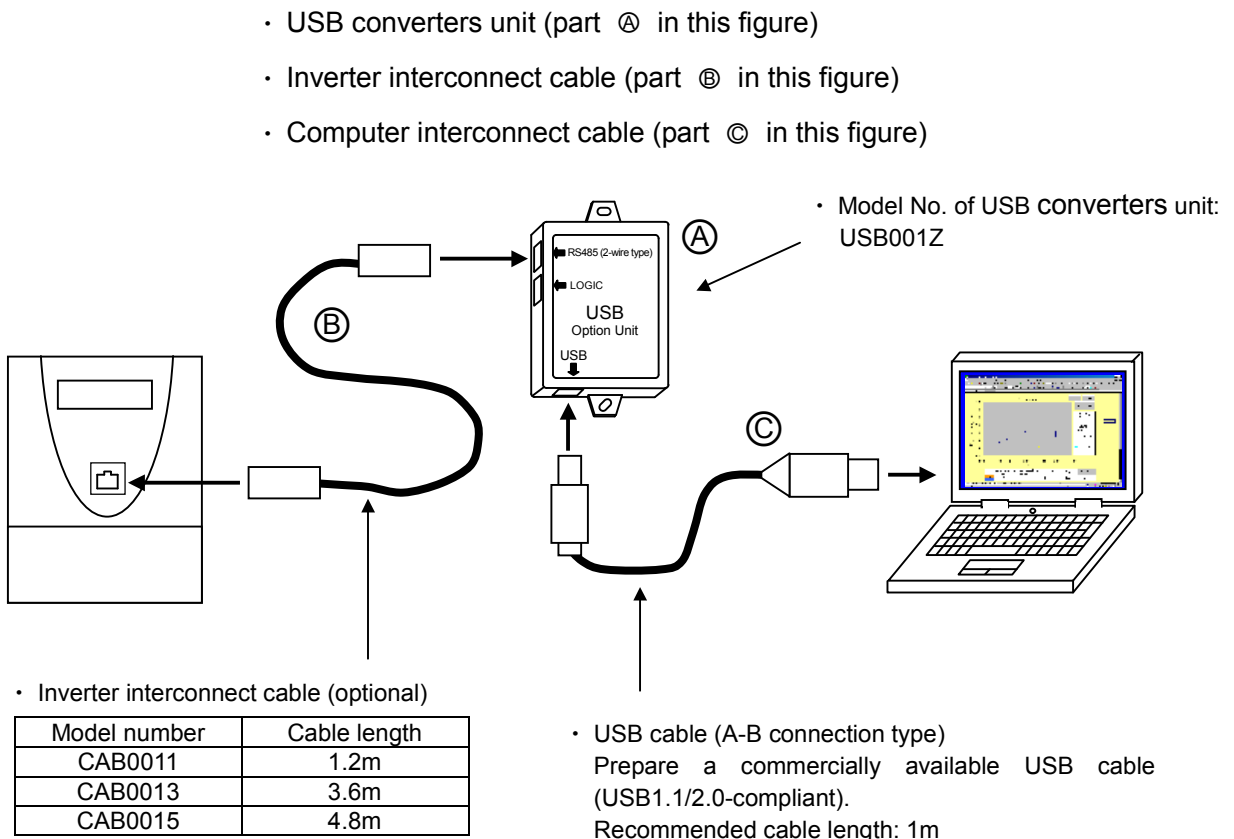

Fig.1 An example of connection of USB converters unit
*2 To use PCT001Z-E, the USB converters unit shown in Fig. 1 below are required.